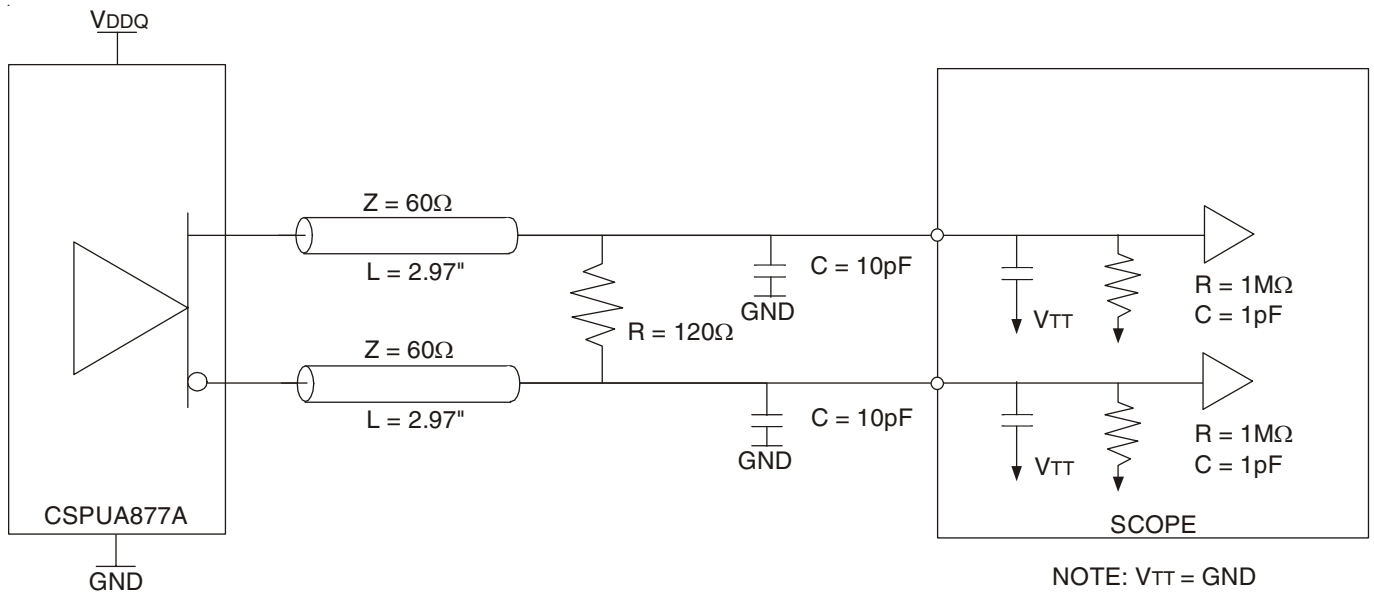

Figure 1: Output Load Test Circuit 1
- There are two different terminations that are used with the above AC tests. The output load shown in figure 1 is used to measure the input and output differential pair cross-voltage only. The output load shown in figure 2 is used to measure all other tests, including input and output slew rates. For consistency, use 50 $\Omega$  equal length cables with SMA connectors on the test board.
- In the frequency range of 271 - 410MHz, the min and max values for tJIT(PER) and t( $\emptyset$ )DYN, and the max value for tsk(O), must not exceed the corresponding min and max values of the 160 - 270MHz range. Also, the sum of the specified values for | tJIT(PER) |, | t( $\emptyset$ )DYN |, and tsk(O) must meet the requirement for  $\Sigma t$ (SU), and the sum of the specified values for | t( $\emptyset$ )DYN | and tsk(O) must meet the requirement for  $\Sigma t$ (H).